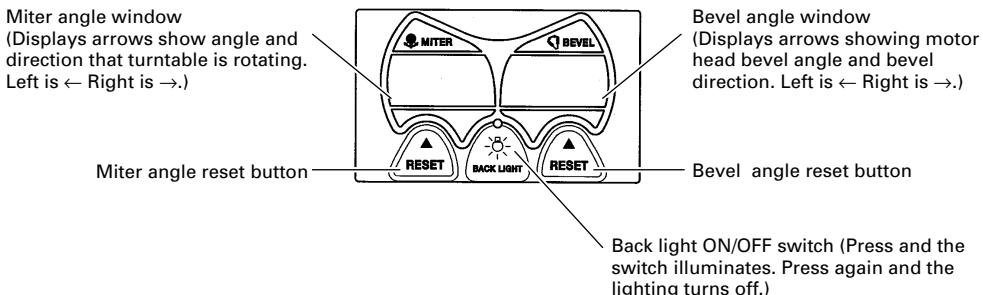

Fig. 21
- (1) Move the turntable left and right with the side handle loosened, and set the turntable to the correct position.
- (2) If the figures on the display and positive stop still do not match, then return the turntable to the  $0^\circ$  position. Next move the turntable left and right with the side handle loosened as shown in Fig. 22-b. After setting it to the correct position  $0^\circ$ , press the reset button again as shown in Fig. 21.